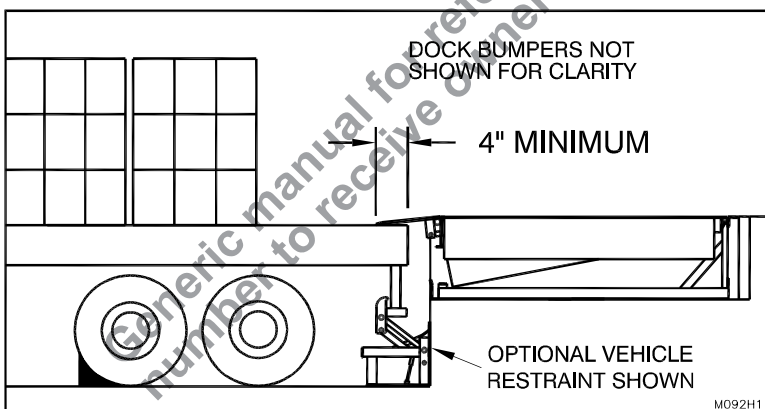

Figure 55: Minimum 4” Penetration
3. Release the **RAISE** button. The leveler will float down to the truck bed. If necessary release the optional fall safe legs to allow the dock leveler to float below level. **Note:** Restore the leveler to the dock level storage position for end loading (See “Figure 55: End Loading” on page 50)